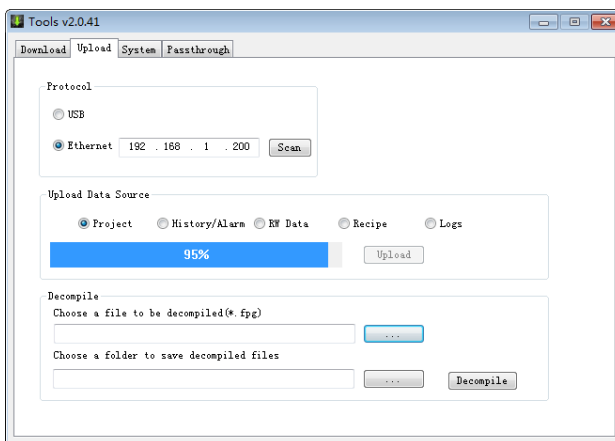

Fig. 23
③ Select the project uploading path and save the file name, and click “Save”.
④ If the screen is correctly connected to the computer, the packaging operation will be started for uploading. Select the “Project” option, and click the “Upload” button, as shown in Fig. 23. When the uploading operation is finished, the “Uploading Success!” dialog box pops up, as shown in Fig. 24. Then click the “OK” button.